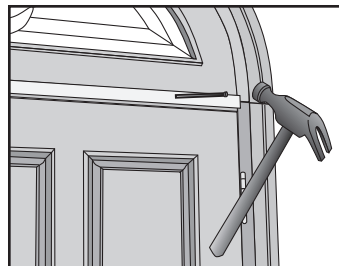

Fig. 41
- M. Measure, cut and set mullion covers. Caulk and fasten with 1-1/2" finish nails (**Fig. 41**).